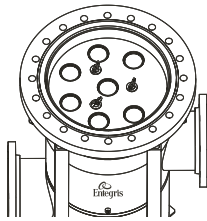

Figure 19.
- Tighten the wing nuts and washers on the cartridge hold-down plate, Figure 19.